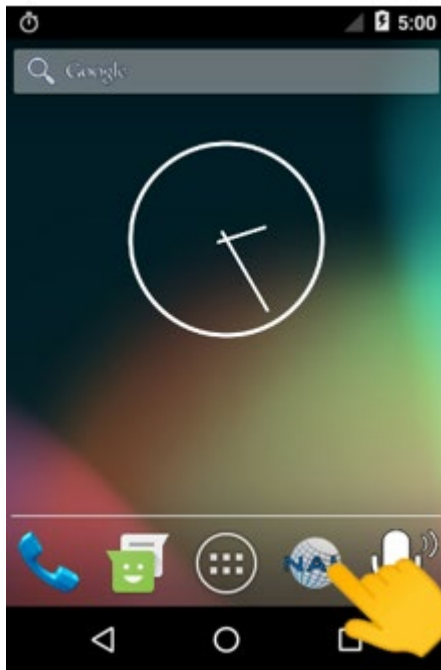

Figure 87: Launch the SP app
16. Tap the **NAL** icon to launch the SHOUT sp application (see **Figure 87**).